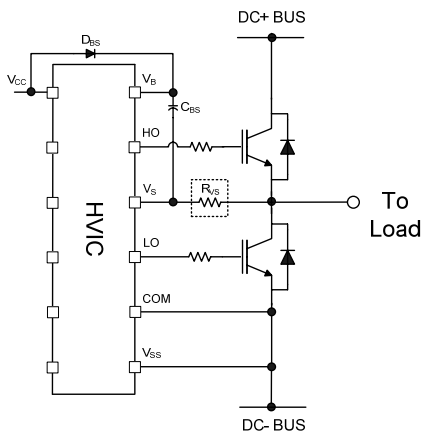

Figure 10:  $V_S$  resistor
**Routing and Placement:** Power stage PCB parasitic elements can contribute to large negative voltage transients as the switch node; it is recommended to limit the phase voltage negative transients. In order to avoid such conditions, it is recommended to 1) minimize the high-side emitter to low-side collector distance, and 2) minimize the low-side emitter to negative bus rail stray inductance. However, where negative  $V_S$  spikes remain excessive, further steps may be taken to reduce the spike. This includes placing a resistor (5  $\Omega$  or less) between the  $V_S$  pin and the switch node (see Figure 10), and in some cases using a clamping diode between  $V_{SS}$  and  $V_S$  (see Figure 11). See DT04-4 at [www.irf.com](http://www.irf.com) for more detailed information.